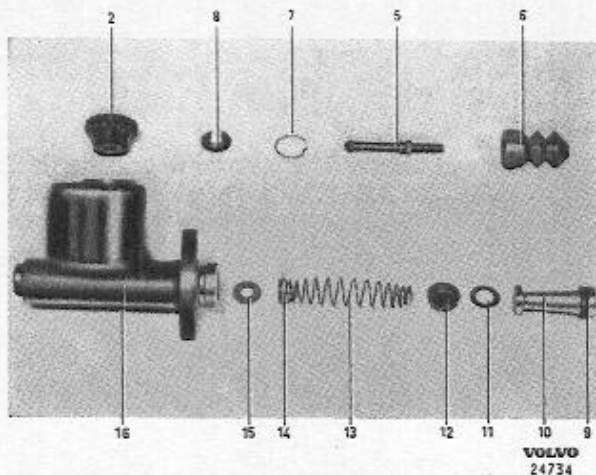
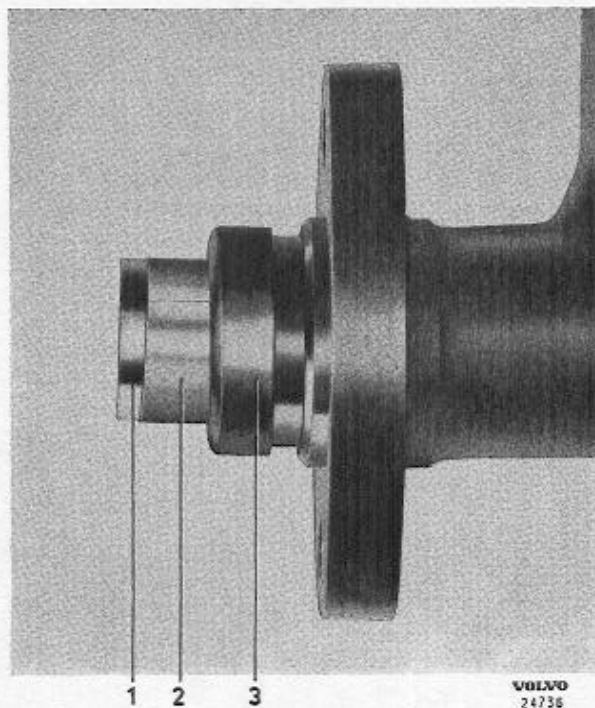

Fig. 50. Master cylinder, late production.
Fig. 51. Fitting the plunger.
- Bend back the rubber cover (6) and remove the locking ring (7), washer (8) and push rod (5). Shake all the parts out of the cylinder, see Fig. 50.
1. Fit the washer (15, Fig. 50), in the bottom of the cylinder.
2. Place the packing (12) on the spring guide. Dip the packing in brake fluid and fit it together with the spring and valve. Place the washer (11) into the cylinder.
3. Pull the packing (9) onto the plunger and turn it as shown in the figure. Dip the plunger in brake fluid and fit it. Take care to see that the packing (9) is not damaged. It is best to use a piece of brass foil formed into a ring to act as a guide for the packing, see Fig. 51. Compress the spring and fit the push rod (5), washer (8) and locking ring (7).